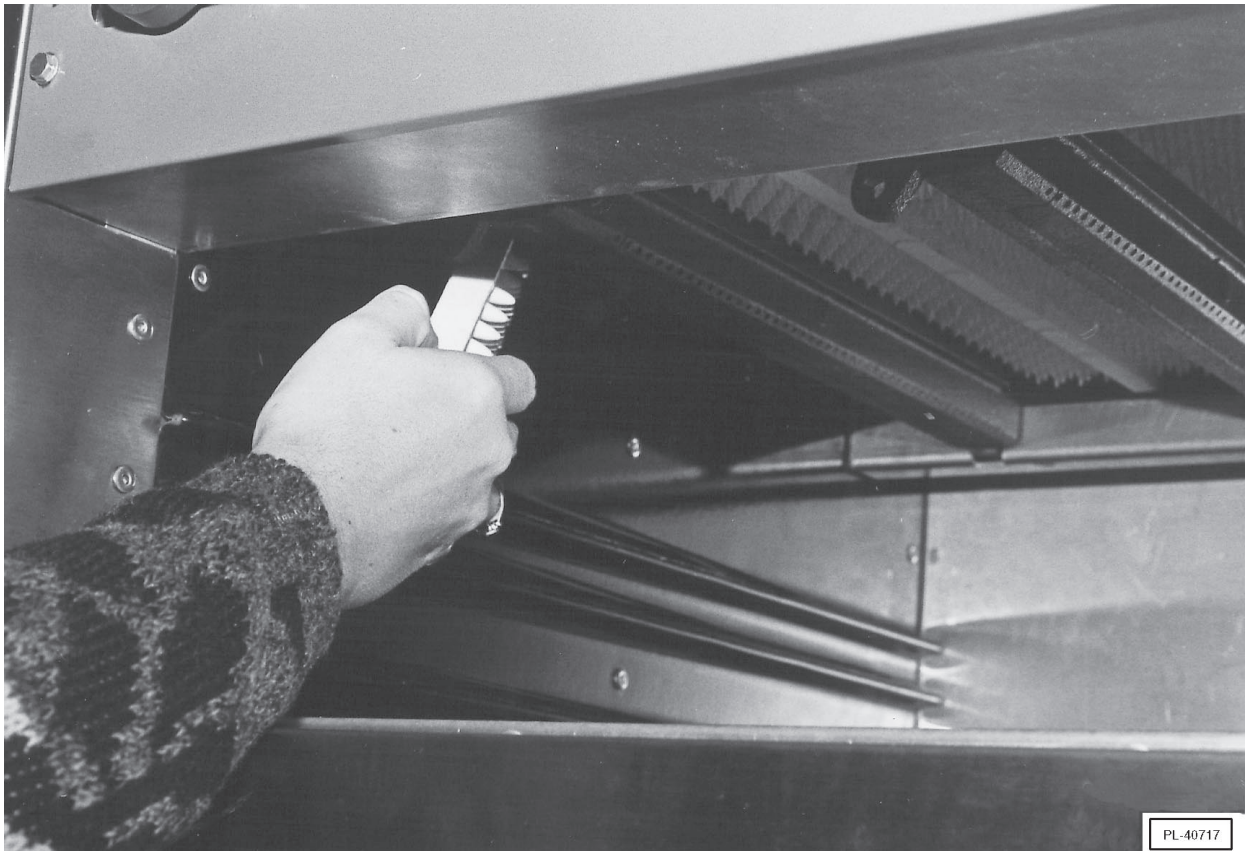

Fig. 2
2. Install the six $5\frac{1}{4}$ " x $2\frac{1}{4}$ " (133.3 x 57 mm) bricks to the left- and right-hand sides of the burner. To install the bricks, insert them one at a time through the opening in the front of the broiler. Angle the brick sideways so that it will slip between the burner edges. Set the bricks flat in place resting on these edges. Push each brick installed as far to the rear of the burner as possible so that the last brick will install easily (Fig. 2).